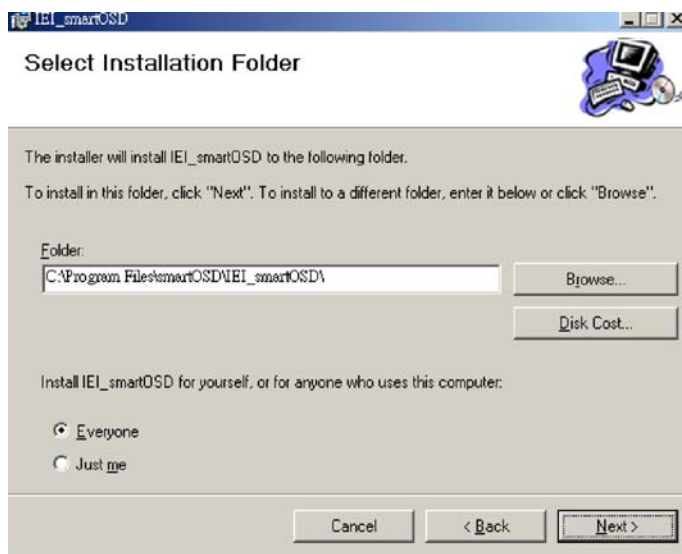

Figure C-3: smartOSD Folder Select Screen
Step 5: The Folder Select screen in Figure C-3 appears.
Step 6: Select the installation folder in Figure C-3 shown above.